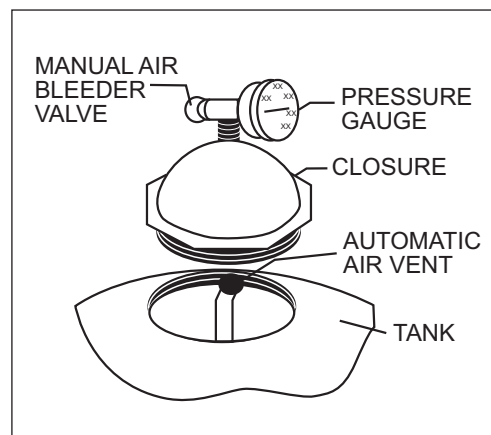

Figure 1.
10. Pivot the diffuser out of the center of the tank on the TR40, 60, TR60 ClearPro, 100 & 140 by rotating the diffuser assembly counter clockwise. (**NOTE:** The multi-diffuser assembly should not be moved on models TR100HD, TR100C, TR100C-3 and TR140C, TR140C-3. After installing the filter media as described below, check to make sure the tops on the diffusers are parallel to the top of the sand bed.) Fill the tank about half full of water. Pour pea gravel first (if used) and then the sand into the top of the filter at a slow rate so that the impact of the filter media does not damage the laterals. See Table 2 for the proper amounts of sand and gravel. Fill filter to the proper level to maintain freeboard, as shown in Table 2. Pivot the diffuser assembly back to its vertical position if it was moved. Be certain the automatic air vent is protruding into the top of the closure as indicated below in Figure 1. Ensure that the automatic air vent is in the center of the filter closure. Wash away all sand around the threaded opening at the top of the tank.